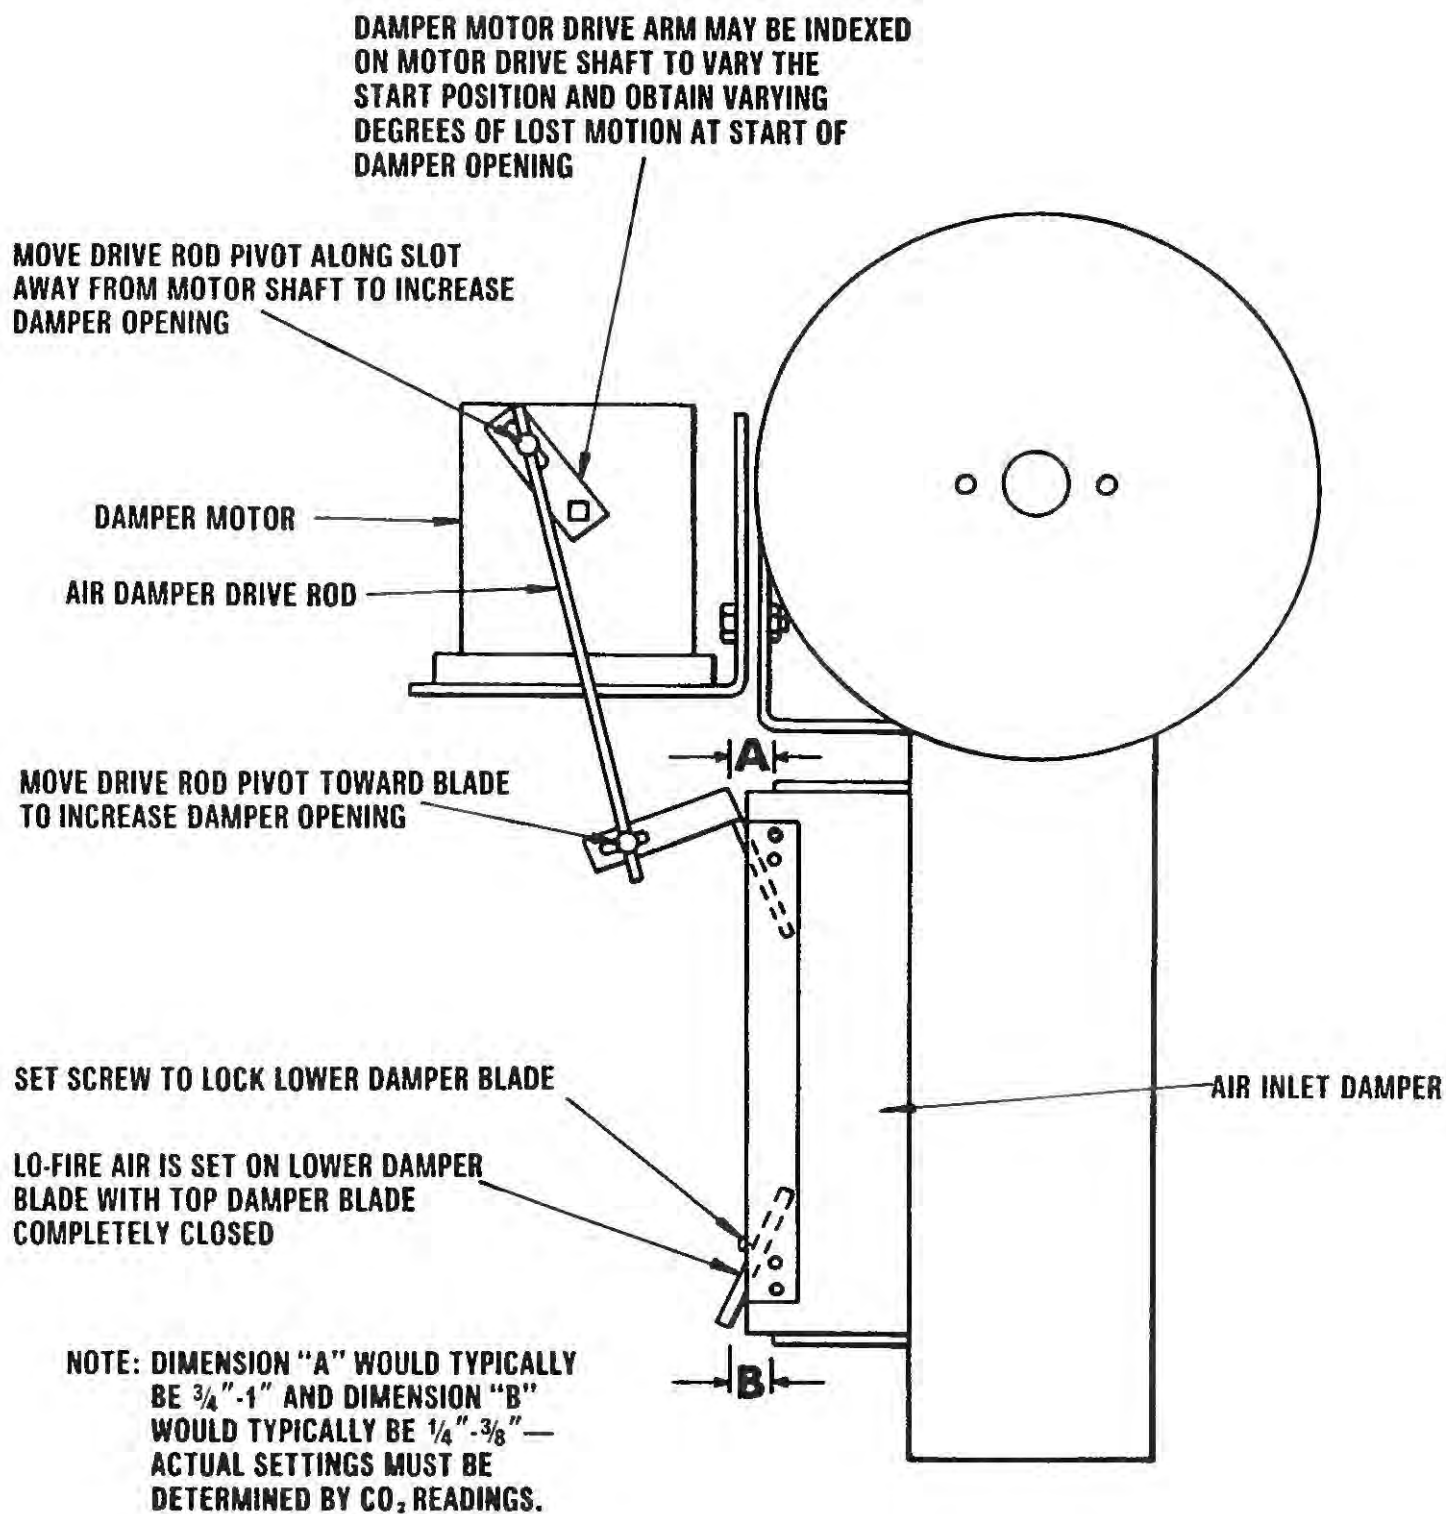

FIG. 5-13 AIR DAMPER ADJUSTMENTS - 60 THRU 80 HP.
- Air Damper Linkage Adjustment - Figures 5-13 thru 5-17